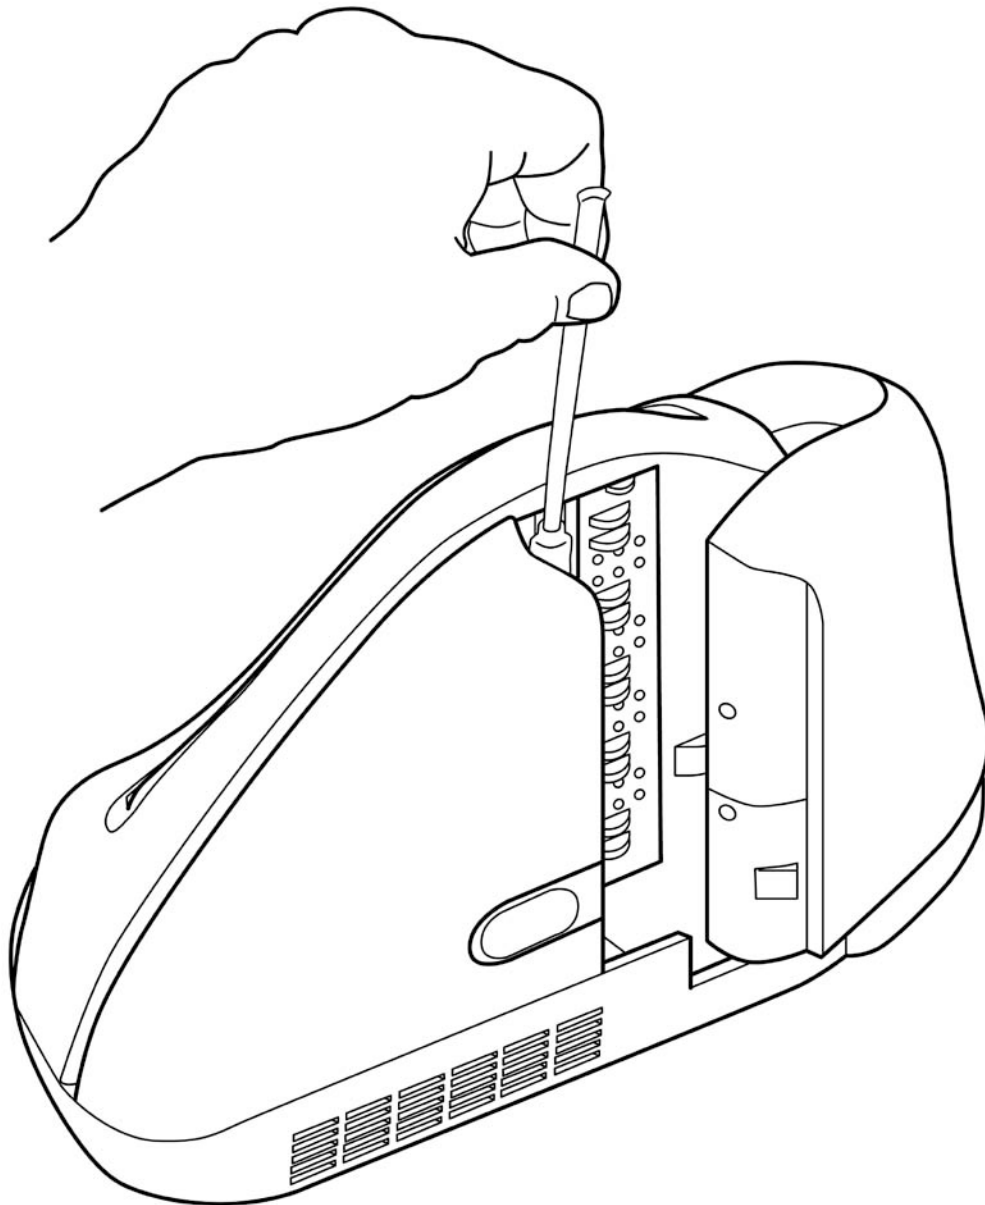

Figure 3-6. Cleaning the First Scan Bar
5. When the tip of the swab is damp, clean the first scan bar by wiping the swab up and down the scan bar surface as indicated in Figure 3-6.